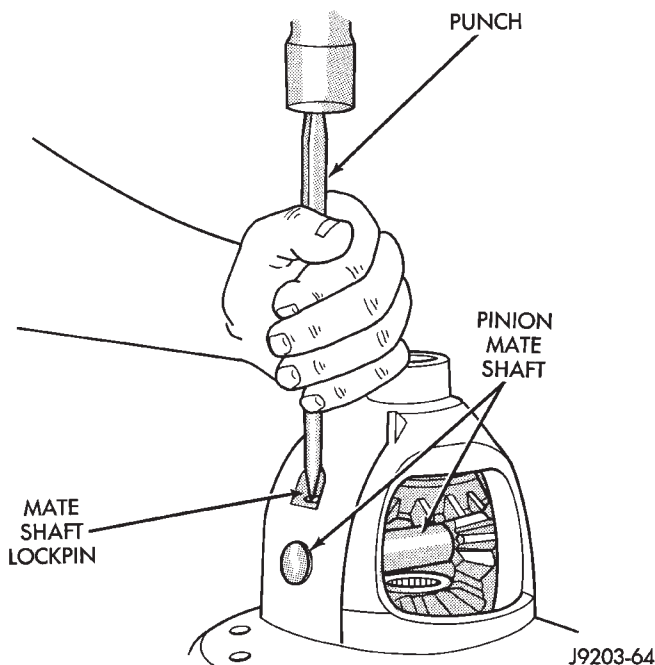

Fig. 39 Mate Shaft Pin Installation
(1) Install the following components in the differential case.
(2) Install and seat the lock pin in the differential case and mate shaft with a punch and hammer (Fig. 39). Peen metal part of case over pin in two places.